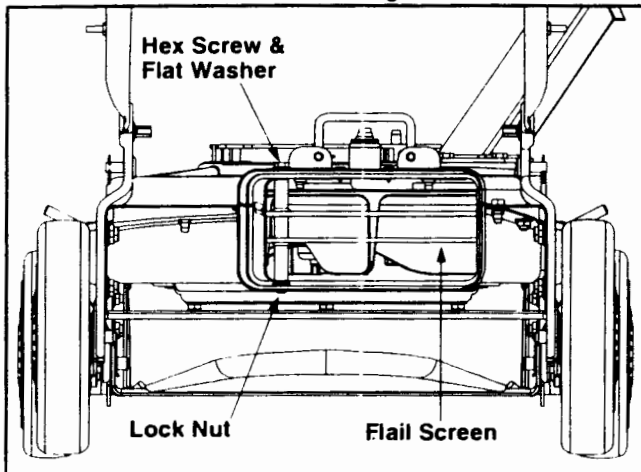

Figure 11
- Remove the bag or blower chute from the unit as instructed in the OPERATION section to obtain access to flail screen. See Figure 11.
- Remove hex screw and flat washer on top of rear housing mounting bracket and the lock nut that secures flail screen. See Figure 11.